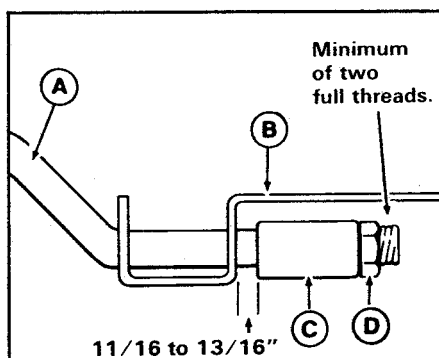

Figure 28. Brake Adjustment
4. Locate the brake band (figure 28) which is located to the inside of left-rear tire.
6. Measure the gap between the spacer and the brake band (figure 28). The gap should measure between 11/16 inch and 13/16 inch (17 to 20 mm). If not, loosen or tighten the brake rod nut (D) to achieve measurement. For safety, a minimum of two full threads must extend thru the nut.